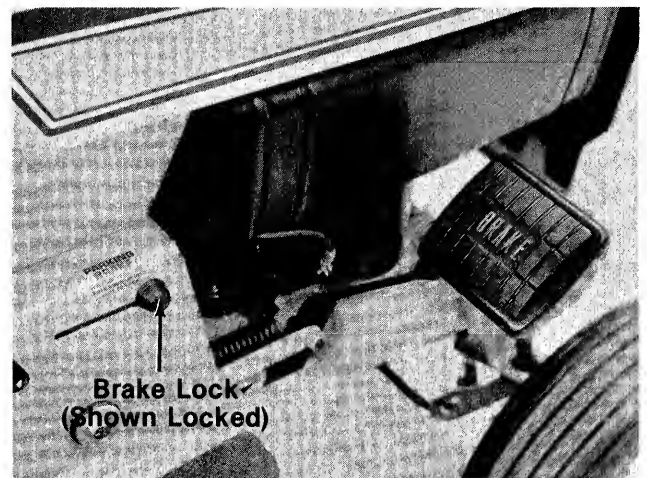

FIGURE 19.
The brake pedal is located on the right hand side of the tractor and is operated by depressing it with your right foot. See figure 19.
The brake lock is located on the right hand side of the tractor. To lock the brake, depress the brake pedal and lift up the lock button. The pedal will stay depressed. To release, depress the brake pedal. Always lock the brake when you park the mower. See figure 19.
3. Depress the brake pedal and lock it down with the brake lock. See figure 19.